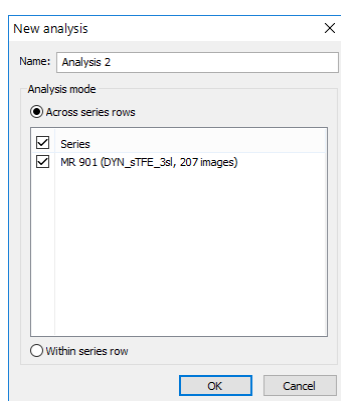

Figure 362 – Creating a new quantitative analysis
3. Click **New...** to open **New analysis** dialog (see Figure 362).